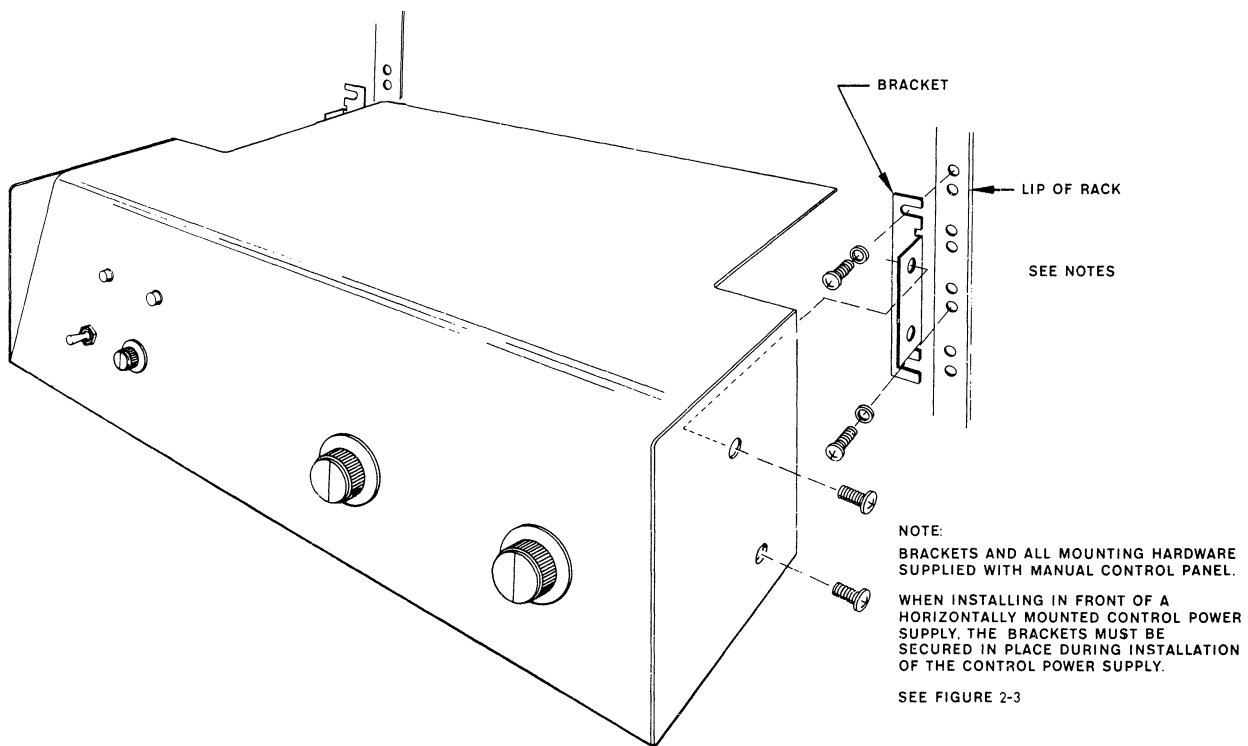

Figure 2-4. Manual Control Panel Mounting
Step 6: Fasten the manual control panel to the bracket (Figure 2-4) using the four 6-32 by 3/8-inch flat head screws supplied with the manual control panel.